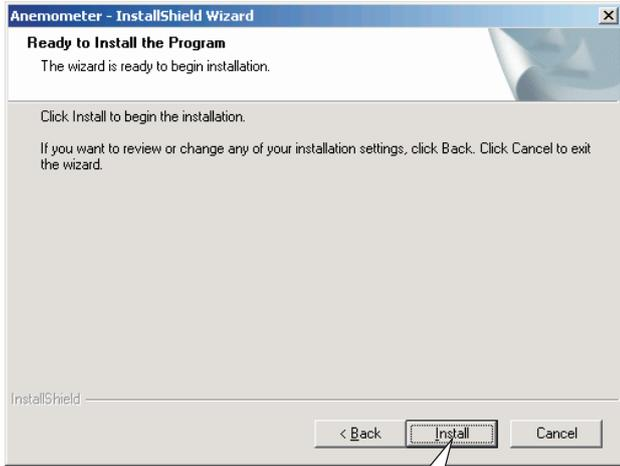

Figure 3
- Input your user name and company name ,click " NEXT " to enter next step , installation interface as below as show in figure3: